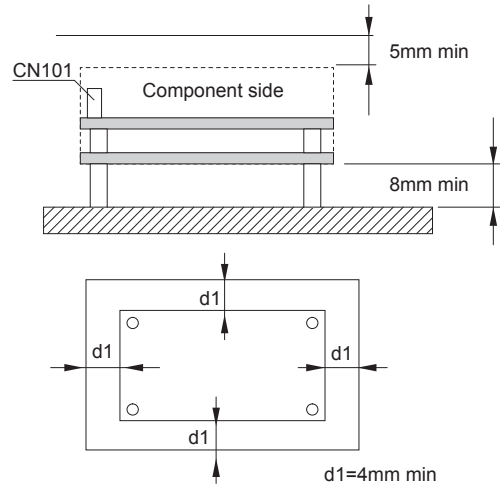

Fig.3.7 Installation method
■ In case of metal chassis, keep the distance shown as Fig.3.7 between component and metal chassis for insulation, use the spacer of 8mm or more between bottom of power supply and metal chassis.